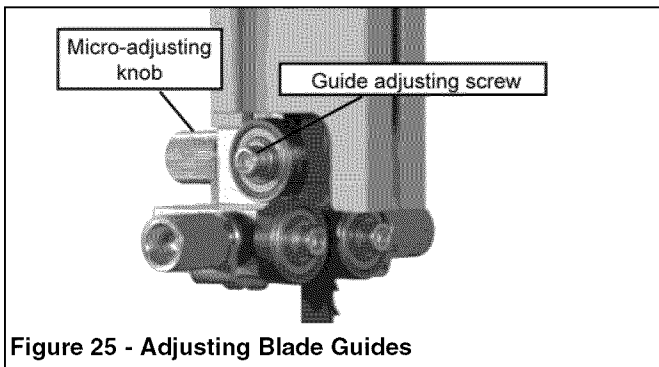

Figure 25 - Adjusting Blade Guides
- Adjust the rear roller guide to be just clear of the back of the saw blade releasing the guide adjusting screw (Figure 25) through turning the micro-adjusting knob.
- When the correct adjustment is reached, lock the roller guide in position with the guide adjusting screw (Figure 25).